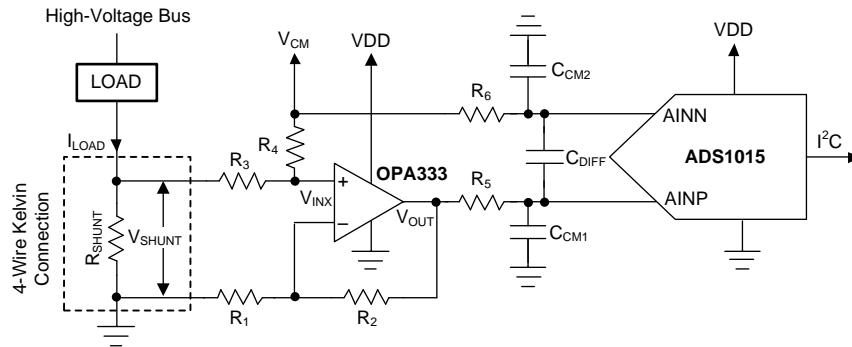

Figure 29. Low-Side Current Shunt Monitoring
Shunt-based, current-measurement solutions are widely used to monitor load currents. Low-side, current-shunt measurements are independent of the bus voltage because the shunt common-mode voltage is near ground. Figure 29 shows an example circuit for a bidirectional, low-side, current-shunt measurement system. The load current is determined by measuring the voltage across the shunt resistor that is amplified and level-shifted by a low-drift operational amplifier, OPA333. The OPA333 output voltage is digitized with ADS1015 and sent to the microcontroller using the I²C interface. This circuit is capable of measuring bidirectional currents flowing through the shunt resistor with great accuracy and precision.
1. To level-shift the ground-referenced signal to allow bidirectional current measurements while running off a unipolar supply. The voltage across the shunt resistor, V_{SHUNT}, is level-shifted by a common-mode voltage, V_{CM}, as shown in Figure 29. The level-shifted voltage, V_{INX}, at the noninverting input is given by Equation 3.
A shunt resistor (R_{SHUNT}) is an accurate resistance inserted in series with the load as shown in Figure 29. If the absolute voltage drop across the shunt, $|V_{SHUNT}|$, is a larger percentage of the bus voltage, the voltage drop may reduce the overall efficiency and system performance. If $|V_{SHUNT}|$ is too low, measuring the small voltage drop requires careful design attention and proper selection of the ADC, operation amplifier, and precision resistors. Make sure that the absolute voltage at the shunt terminals does not result in violation of the input common-mode voltage range requirements of the operational amplifier. The power dissipation on the shunt resistor increases the temperature because of the current flowing through it. To minimize the measurement errors due to variation in temperature, select a low-drift shunt resistor. To minimize the measurement gain error, select a shunt resistor with low tolerance value. To remove the errors due to stray ground resistance, use a four-wire Kelvin-connected shunt resistor, as shown in Figure 29.